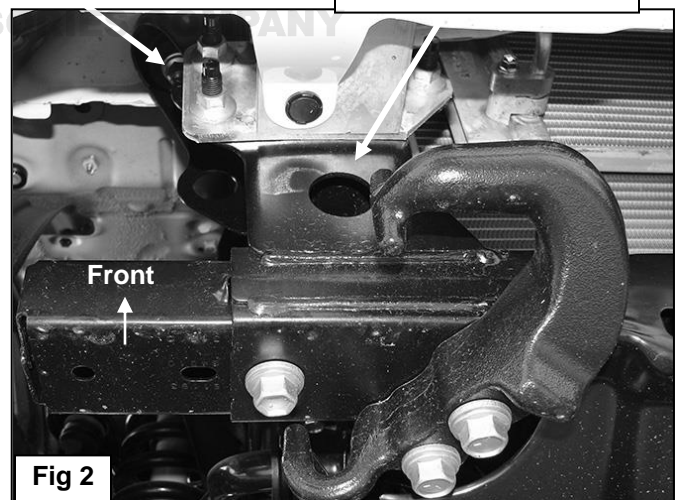

Fig 2
2. Start installation at the passenger side, front of the vehicle. Remove the (2) outer factory hex nuts attaching the bumper mount to the end of the frame, **(Figure 2)**. **NOTE:** It may be necessary to temporarily remove the factory tow hook from the passenger side.